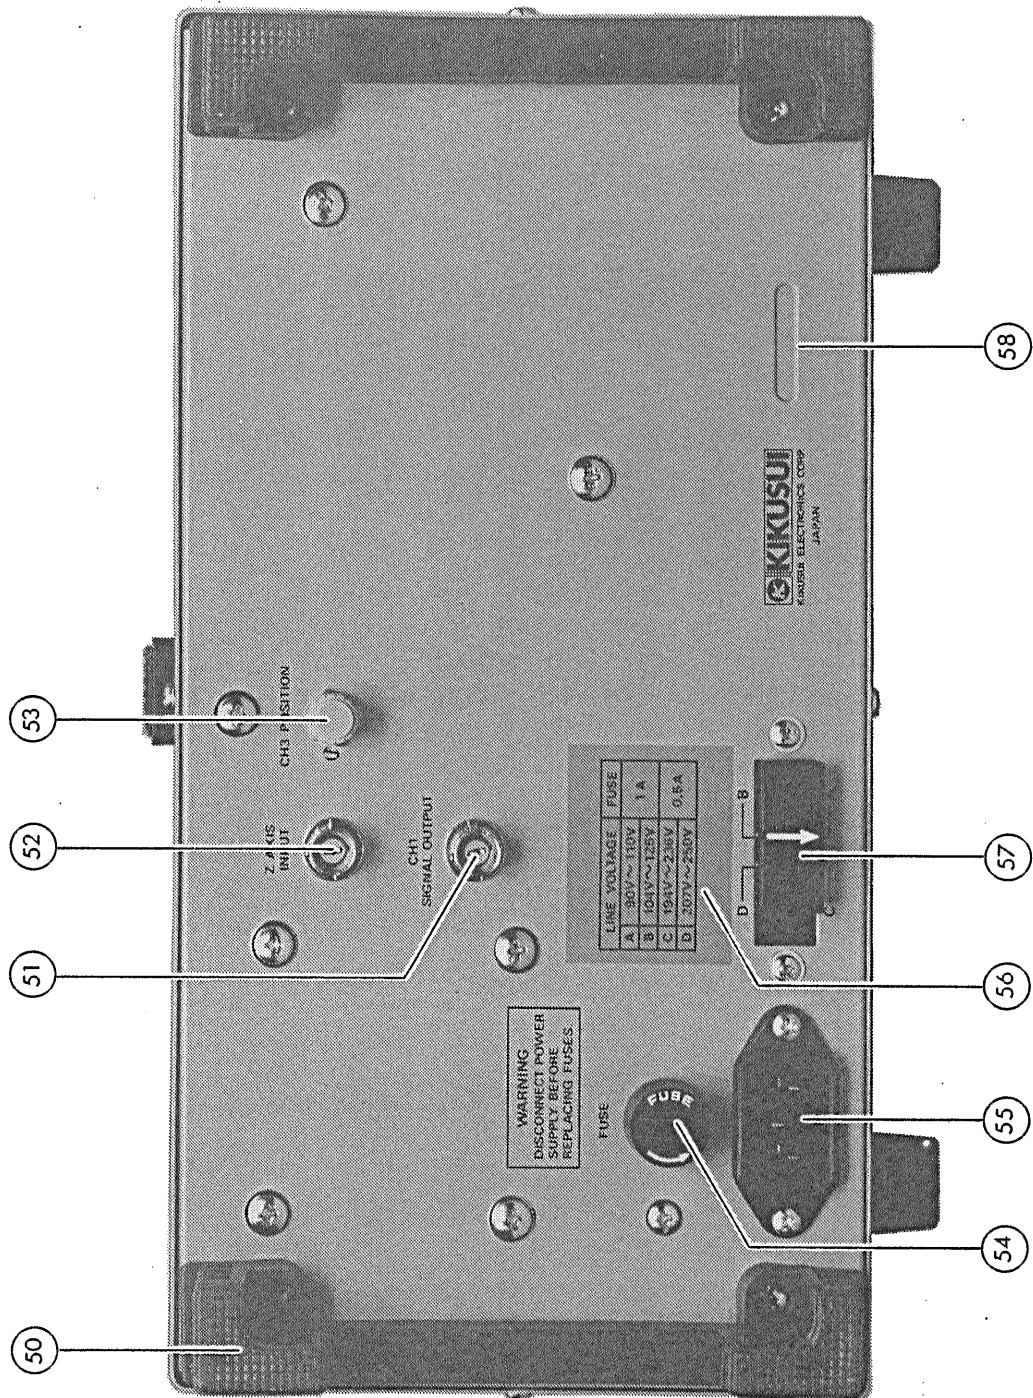

Figure 4-2
4.2 Explanation of Rear Panel (See Figure 4-2.)
- o CH1 SIGNAL OUTPUT ... (51) This output terminal provides CH1 signal which can be fed to a frequency counter, etc.
- o Z AXIS INPUT ..... (52) Input terminal for a external intensity modulation signal. Binding post terminal with 19-mm (0.75 in.) spacing.
- o CH3 POSITION ..... (53) POSITION CONTROL for CH3, INT or EXT TRIG VIEWING.
- o FUSE ..... (54) Fuse in the primary circuit of the power transformer. Fuse rating is as shown in the AC line voltage table (56) on the instrument rear panel.
- o AC power input connector ..... (55) Input connector of the AC power of the instrument. Connect the AC power cord (supplied) to this connector.
- o AC voltage selector plug ..... (57) For selecting the AC voltage of the instrument in conjunction with selector connector, as indicated with A, B, C, D symbols referenced to the AC line voltage table (56) on the instrument rear panel.
- o (58) This is the production number to identify which instruments were produced in the KIKUSUI factory. Please notify this number if you need our SERVICE.